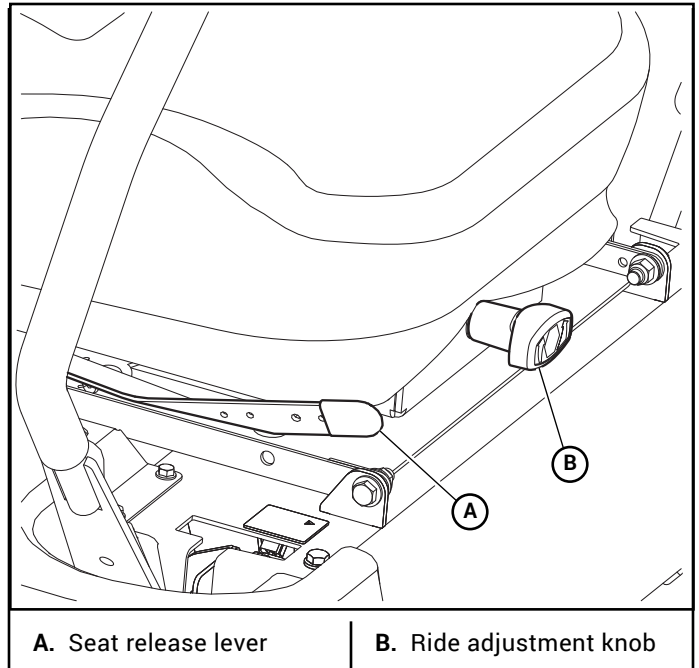

Figure 4-18
1. Use the seat release lever to slide the seat forward and rearward. Figure 4-18
2. Adjust the seat firmness by turning the ride adjustment knob. Figure 4-18